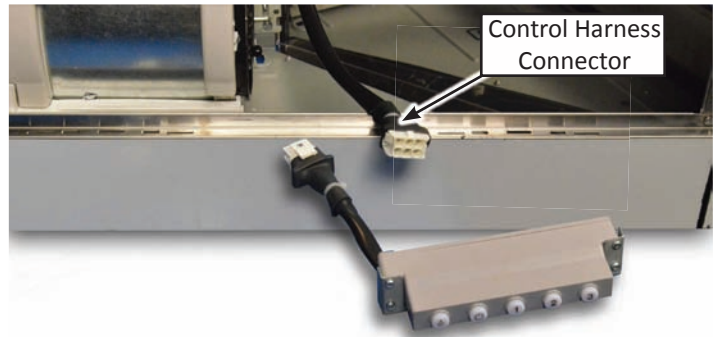

Figure 2
4. The control can now be easily accessed , see figure 2.
5. Disconnect the control harness, see figure 2.